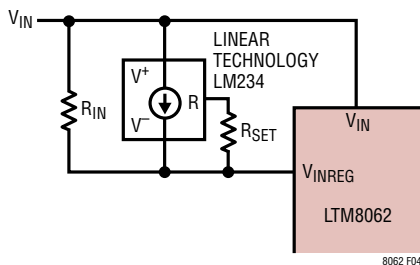

Figure 4. MPPT Temperature Compensation Network
In the circuit shown in Figure 4,
As the temperature coefficient for  $V_{MP}$  is similar to that of  $V_{OC}$ , the specified temperature coefficient for  $V_{OC}$  (TC) of  $-78\text{mV}/^{\circ}\text{C}$  and the specified peak power voltage ( $V_{MP}(25^{\circ}\text{C})$ ) of 17.6V can be inserted into the equations to calculate the appropriate resistor values for the temperature compensation network in Figure 4. Initially, determine the  $R_{SET}$  value using the following equation: